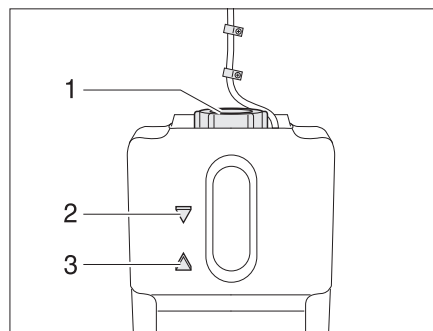

Fig. 152 Compensator reservoir hot-water heater
- Check if the fluid level is between the marks "MIN" (Fig. 152,3) and "MAX" (Fig. 152,2) on the compensator reservoir (Fig. 152).
- Unscrew the screw cap (Fig. 152,1) at the compensator reservoir.